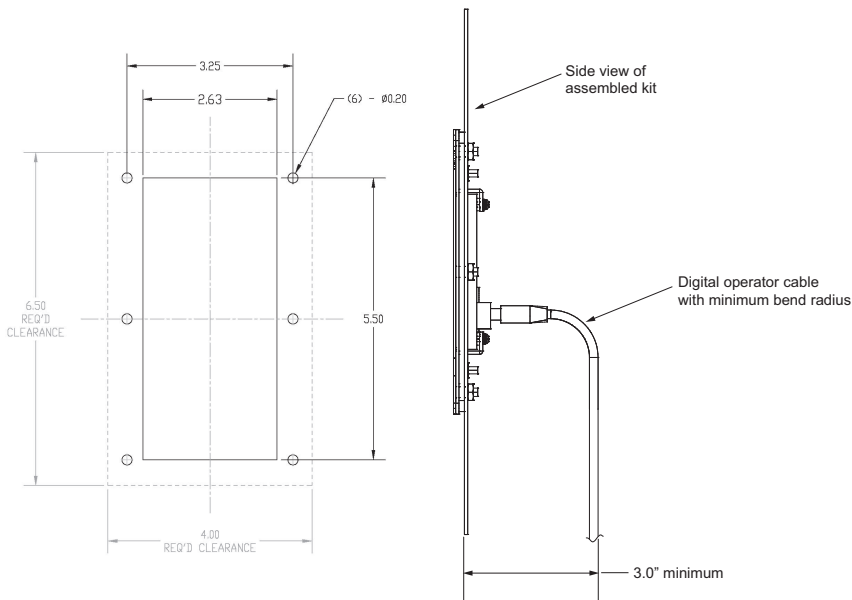

Figure 1 Cutout Drawing and Side View Showing Recommended Bending Radius (Depth)
3. Create the cutout at the desired location on the customer supplied panel as shown in **Figure 1**. Use the 1:1 cutout template (drawing UDM00236) included in this kit.